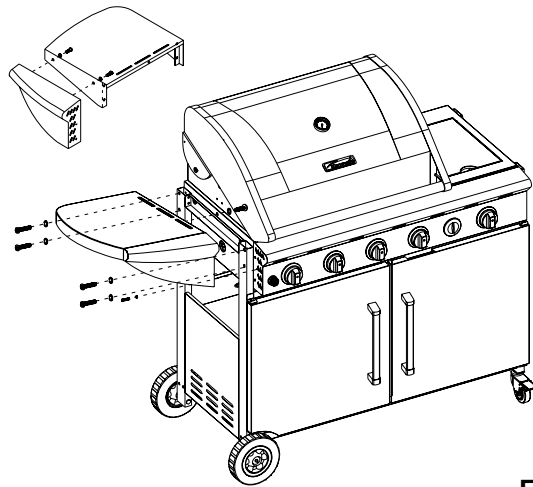

Figure 15
1. Assemble left side shelf front panel using (2) 5/32 x 3/8" Phillips head screws with (2) 5/32" lock washers. Then attach left side shelf to cart leg using (5) 1/4 x 1/2" Phillips head screws and (5) 1/4" lock washers. Then use (1) 5/32 x 3/8" Phillips head screw and (1) 5/32" lock washer to attach side burner control panel to main control panel. (Fig.15)